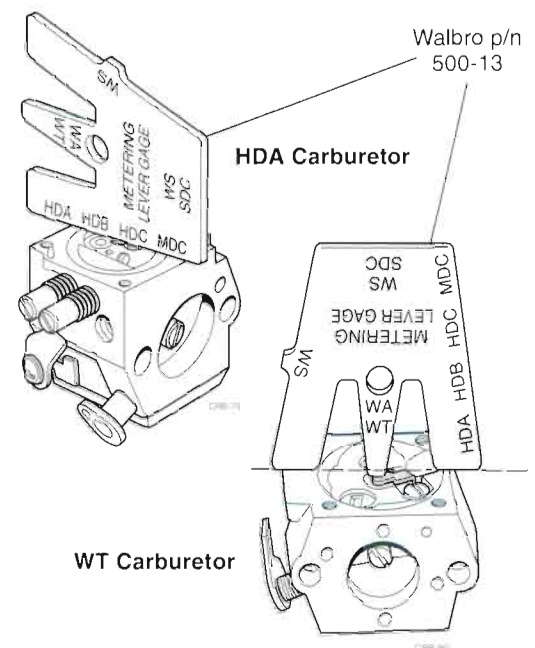

Figure 3.26 Checking Metering Lever Height
- After installing the metering lever assembly, use a straightedge and thickness gauge or use Walbro gauge p/n 500-13 to check for proper metering lever height (Figure 3.26).